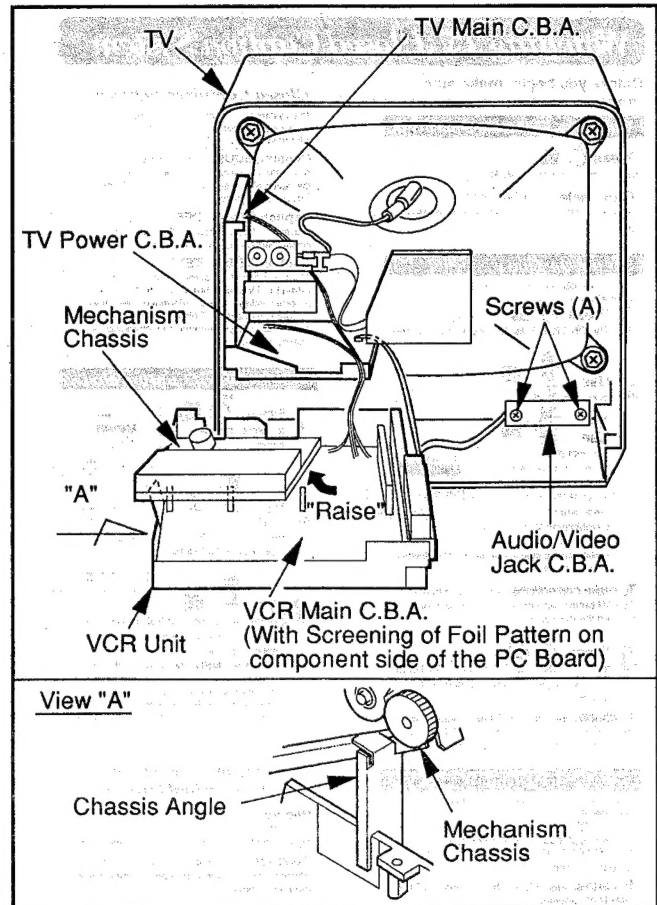

Fig. 1-1
To position the VCR Unit and the TV Main C.B.A. for servicing as shown in Fig. 1-1, use the following procedure.
- 11) Place the VCR Unit for servicing as shown in Fig. 1-1.
Remove Audio/Video Jack C.B.A. by removing 2 Screws (A) as shown in Fig. 1-1.